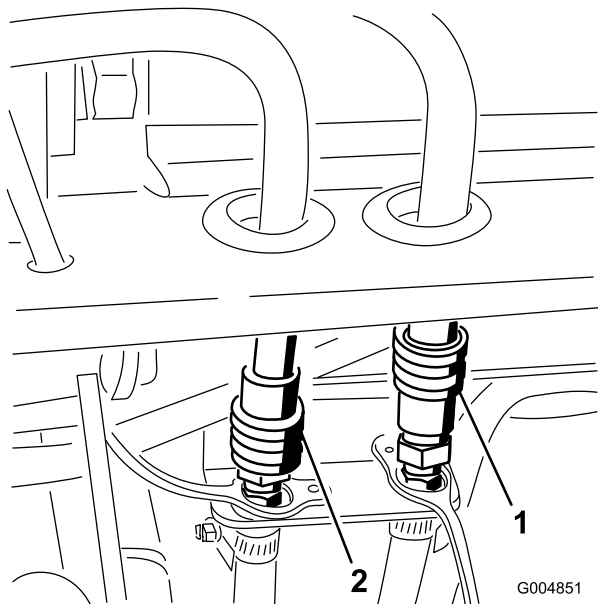

Figure 79
18. Disconnect the pressure and return quick coupler hoses from the cab (Figure 79). Plug the couplers into each other to keep clean. Install the cap and dust covers onto the quick couplers on the machine. Make sure all connectors are clean before making connections.